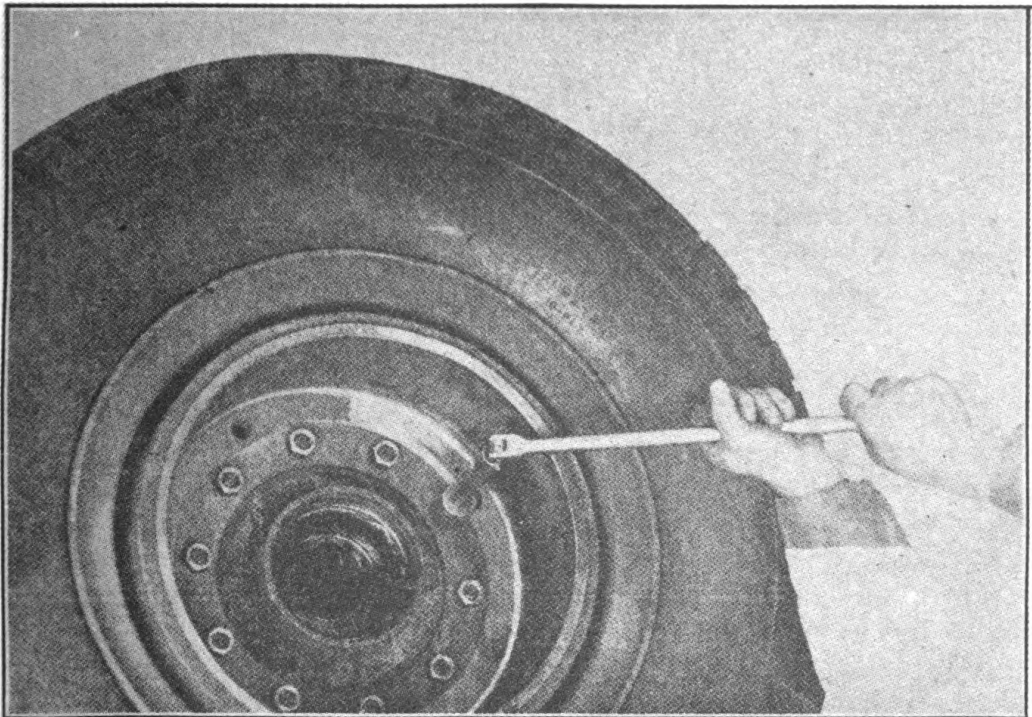

FIGURE 25. DRUM REMOVAL
- (1) Remove wheel and hub in an assembly.
(2) If changing drum on the front wheel, block the wheel at both sides and remove the drum by removing the ten nuts holding it to the hub assembly (Figure 25). When removing rear drums it will be necessary to remove wheel assembly from hub and the hub assembly from axle. Remove the six slot-headed bolts and lift the drum off hub pilot.
- (3) Remove any rust or dirt in the drum pilot and install the new drum.